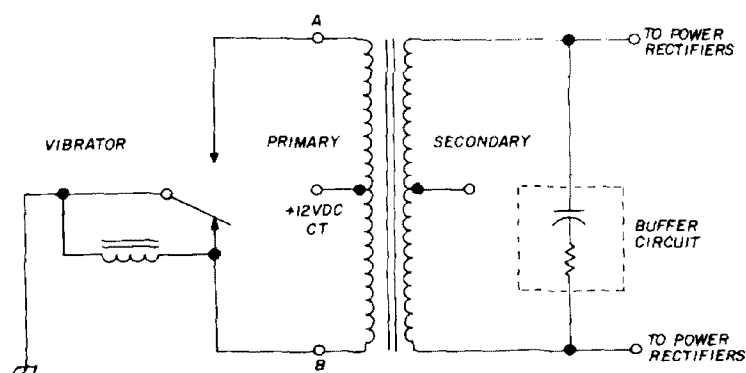

fig. 1. The basic vibrator supply.
The schematic, fig. 1, shows a basic vibrator primary circuit and a secondary winding with buffer. It's basically a mechanical switch with the center tap of the primary at plus 12 Vdc. The vibrator alternately grounds point (A) then (B) creating a square wave of dc. This causes current to flow in the secondary winding. The induced currents always have some